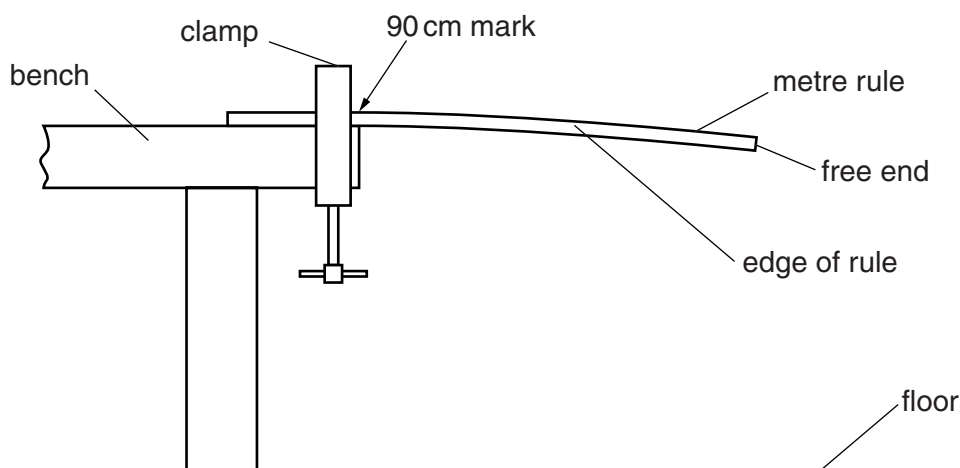

Fig. 4.1
1. One metre rule should be provided clamped with the 90cm mark at the edge of the bench as shown in Fig. 4.1. The 0cm mark of the scale should be at the free end of the rule and the scale of the metre rule must be facing upwards.
Check that the metre rule is clamped as shown in Fig. 4.1.